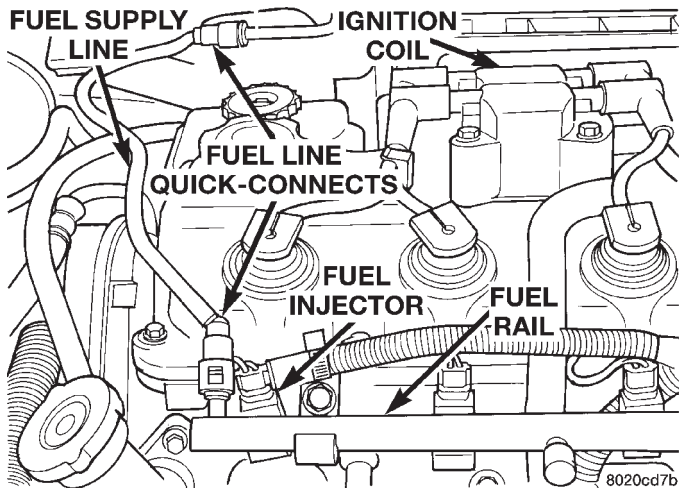

Fig. 28 Fuel Rail and Injectors
(3) Disconnect fuel supply tube from rail. Refer to Quick-Connect Fittings in the Fuel Delivery section of this group.
(4) Disconnect electrical connectors from fuel injectors (Fig. 28).